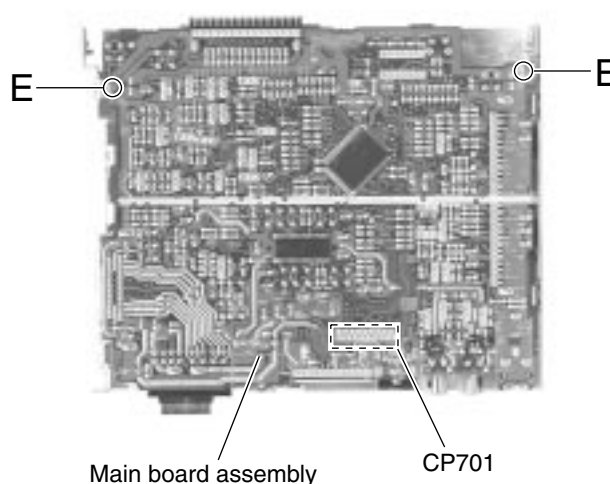

Fig. 8
■ Removing the main amplifier board assembly (See Fig.8)